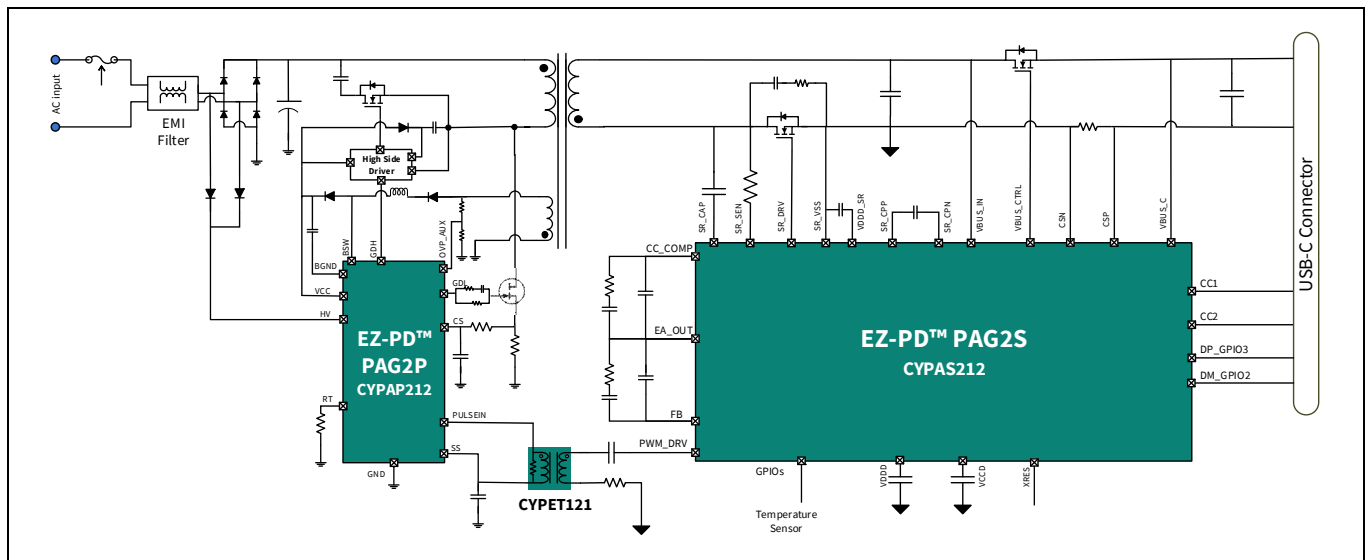

Figure 1 USB PD adapter with secondary-side flyback control
Figure 1 shows a power adapter application diagram implementing a secondary-side controlled synchronous flyback system. In this system, EZ-PD™ PAG2S-AC modulates the pulse width of the primary MOSFET in voltage control mode. PAG2S-AC engages the internal error amplifier (EA) and a programmable ramp generator to determine the pulse width of the PWM. This PWM signal is transferred from the secondary to the primary side through a pulse edge transformer, the same pulse transformer is used to transfer the ACF signal as well. In this topology, PAG2S-AC integrates three key features: secondary-side PWM control with ACF, charging protocol control, and fault protection. In the following example, EZ-PD™ PAG2P is used as the primary controller with PAG2S-AC.
PAG2S-AC integrates two error amplifier blocks which handle secondary-output sensing and regulation for both constant voltage and constant current modes of operation. The error-amplifier output feeds into the internal analog PWM block. The negative input of the error amplifier is the feedback (FB) pin and the positive input is an internal voltage reference. Based on the desired VBUS output, the voltage at the FB pin will be changed using internal current source/sink IDACs. An external compensation network is required between the FB and EA_OUT pins, as shown in the application diagram (see Figure 1). Constant current operation makes use of an internal LSCSA, the output of which feeds into an independent error amplifier as shown in functional block diagram. Constant current mode regulation requires an external compensation network between CC_COMP_GPIOx and EA_OUT as shown in Figure 1.